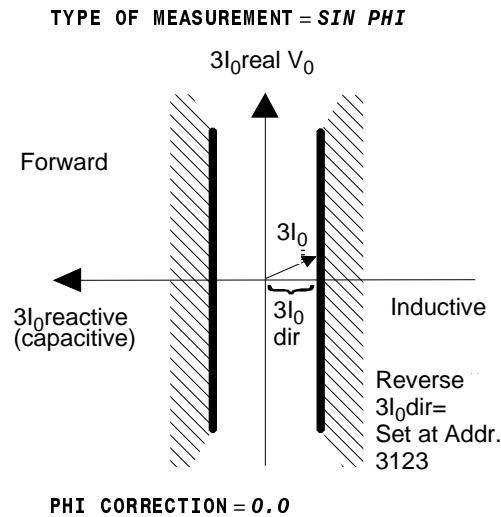

Figure 6-38 Directional Line for $\sin \phi$ Measurement
- Address 3125 = **sin** ϕ : the reactive (capacitive) component of the zero sequence current with respect to the displacement voltage (the component of $3I_0$ that leads V_0 or $3V_0$ by 90°) is evaluated by the setting at address 3123 (see Figure 6-38).